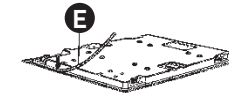

Fig. 9
- Turn the hob over and position the **E** seal (Fig. 9) correctly underneath the perimeter of the hob, so that the outer side of the seal is exactly aligned with the outer edge of the hob. The ends of the strips of the joint should meet, but not overlap.